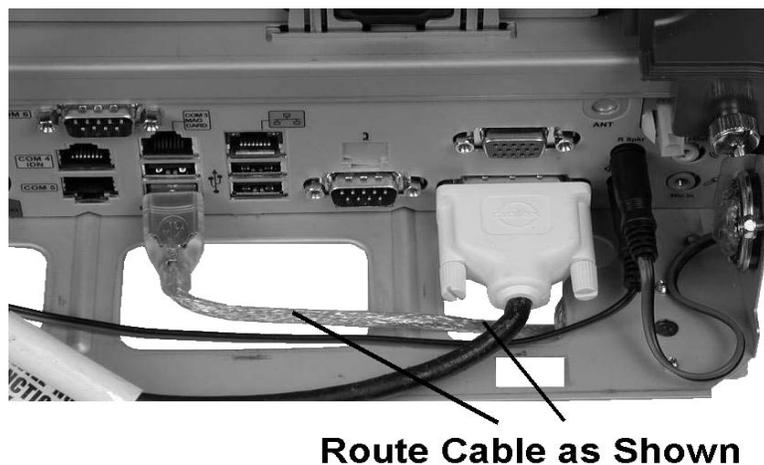

Figure 3-40: Suggested Extension Cable Routing
3. Route the cable through the first cut-out and connect it to one of the four I/O panel USB connectors. Figure 3-40.